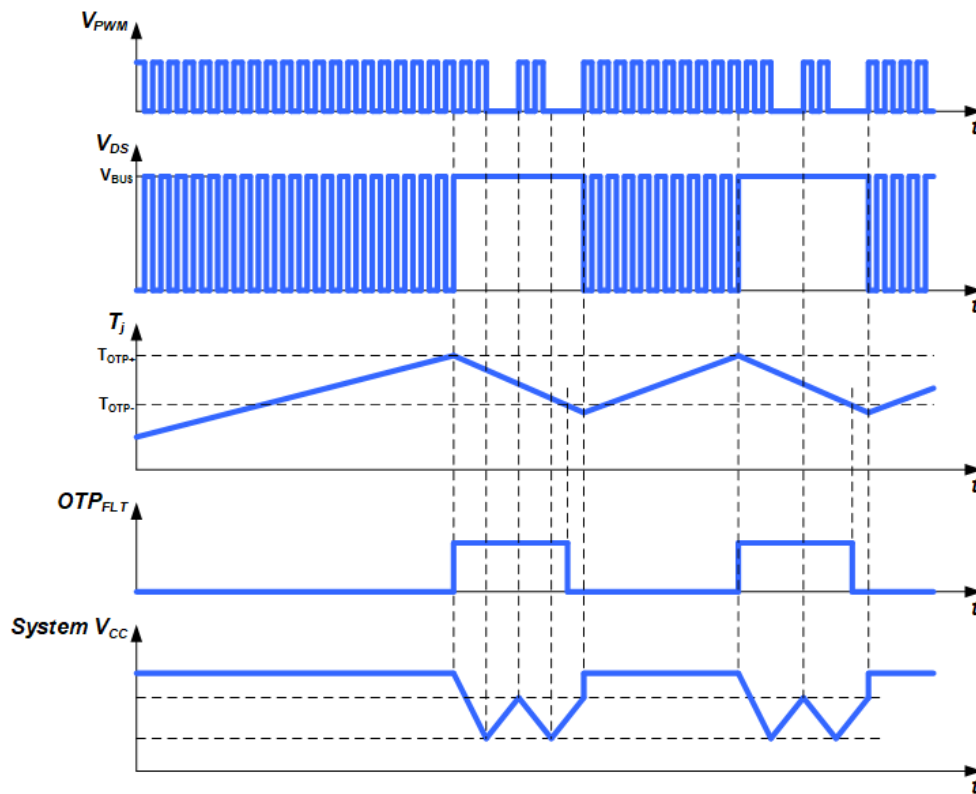
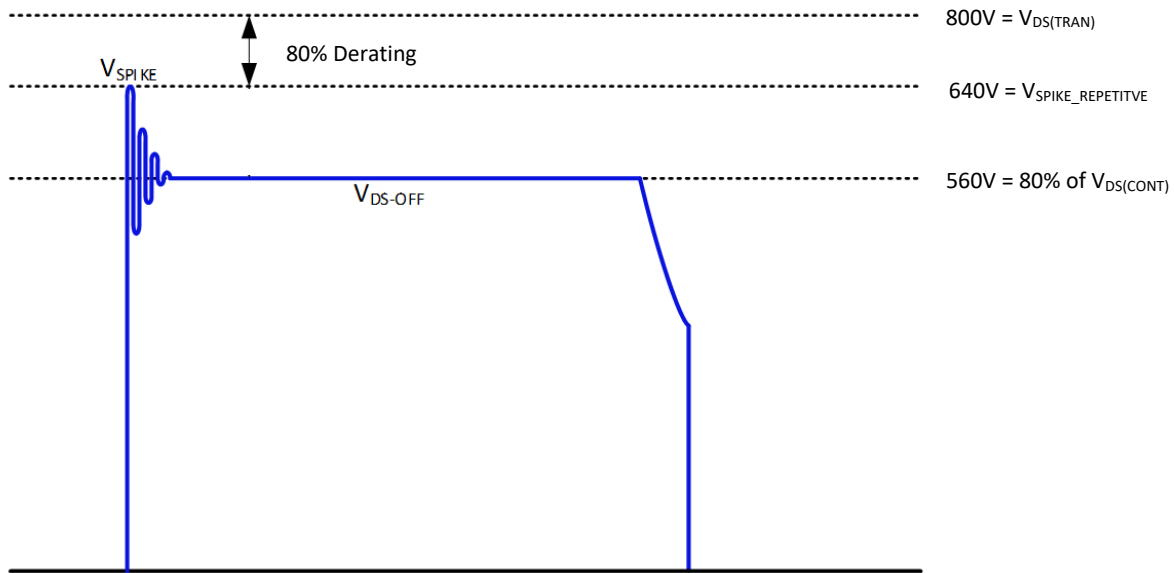

Figure 25. OTP threshold timing diagram
Figure 26. QR flyback drain-to-source voltage stress diagram
This GaN Power IC includes over-temperature detection and protection (OTP) circuitry to protect the IC against excessively high junction temperatures ( $T_J$ ). High junction temperatures can occur due to overload, high ambient temperatures, and/or poor thermal management. Should  $T_J$  exceed the internal  $T_{OTP+}$  threshold (165°C, typical) then the IC will latch off safely. When  $T_J$  decreases again and falls below the internal  $T_{OTP-}$  threshold (95°C, typical), then the OTP latch will be reset. Until then, internal OTP latch guaranteed to remain in the correct state while  $V_{CC}$  is greater than 5V. During an OTP event, this GaN IC will latch off and the system  $V_{CC}$  supply voltage will decrease due to the loss of the aux winding supply. The system  $V_{CC}$  will fall below the lower UV- threshold of the controller and the high-voltage start-up circuit will turn-on and  $V_{CC}$  will increase again (Figure 25).  $V_{CC}$  will increase above the rising UV+ threshold and the controller turn on again and deliver PWM pulses again.
GaN Power ICs have been designed and tested to provide significant design margin to handle transient and continuous voltage conditions that are commonly seen in single-ended topologies, such as quasi-resonant (QR) flyback applications. The different voltage levels and recommended margins in a typical QR flyback can be analyzed using Figure 26. When the device is switched off, the energy stored in the transformer leakage inductance will cause  $V_{DS}$  to overshoot to the level of  $V_{SPIKE}$ . The clamp circuit should be designed to control the magnitude of  $V_{SPIKE}$ . After dissipation of the leakage energy, the device  $V_{DS}$  will settle to the level of the bus voltage plus the reflected output voltage which is defined in Figure 25 as  $V_{DS-OFF}$ .